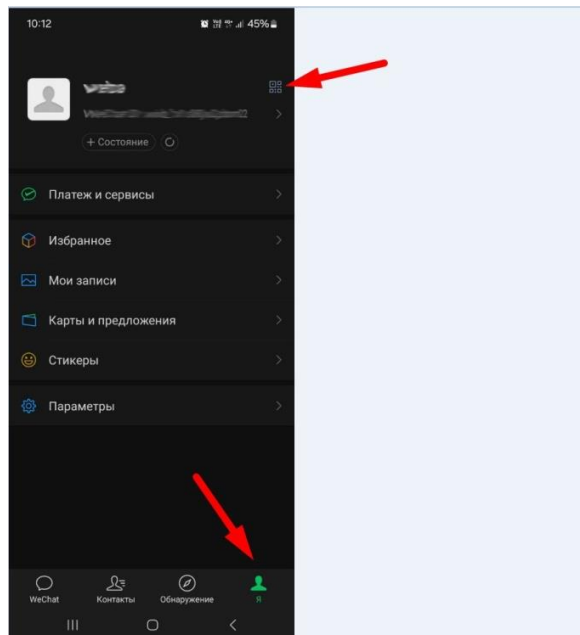

Figure 1
2. In the WeChat messenger, go to the appropriate tab (see Figure 1) and click scan